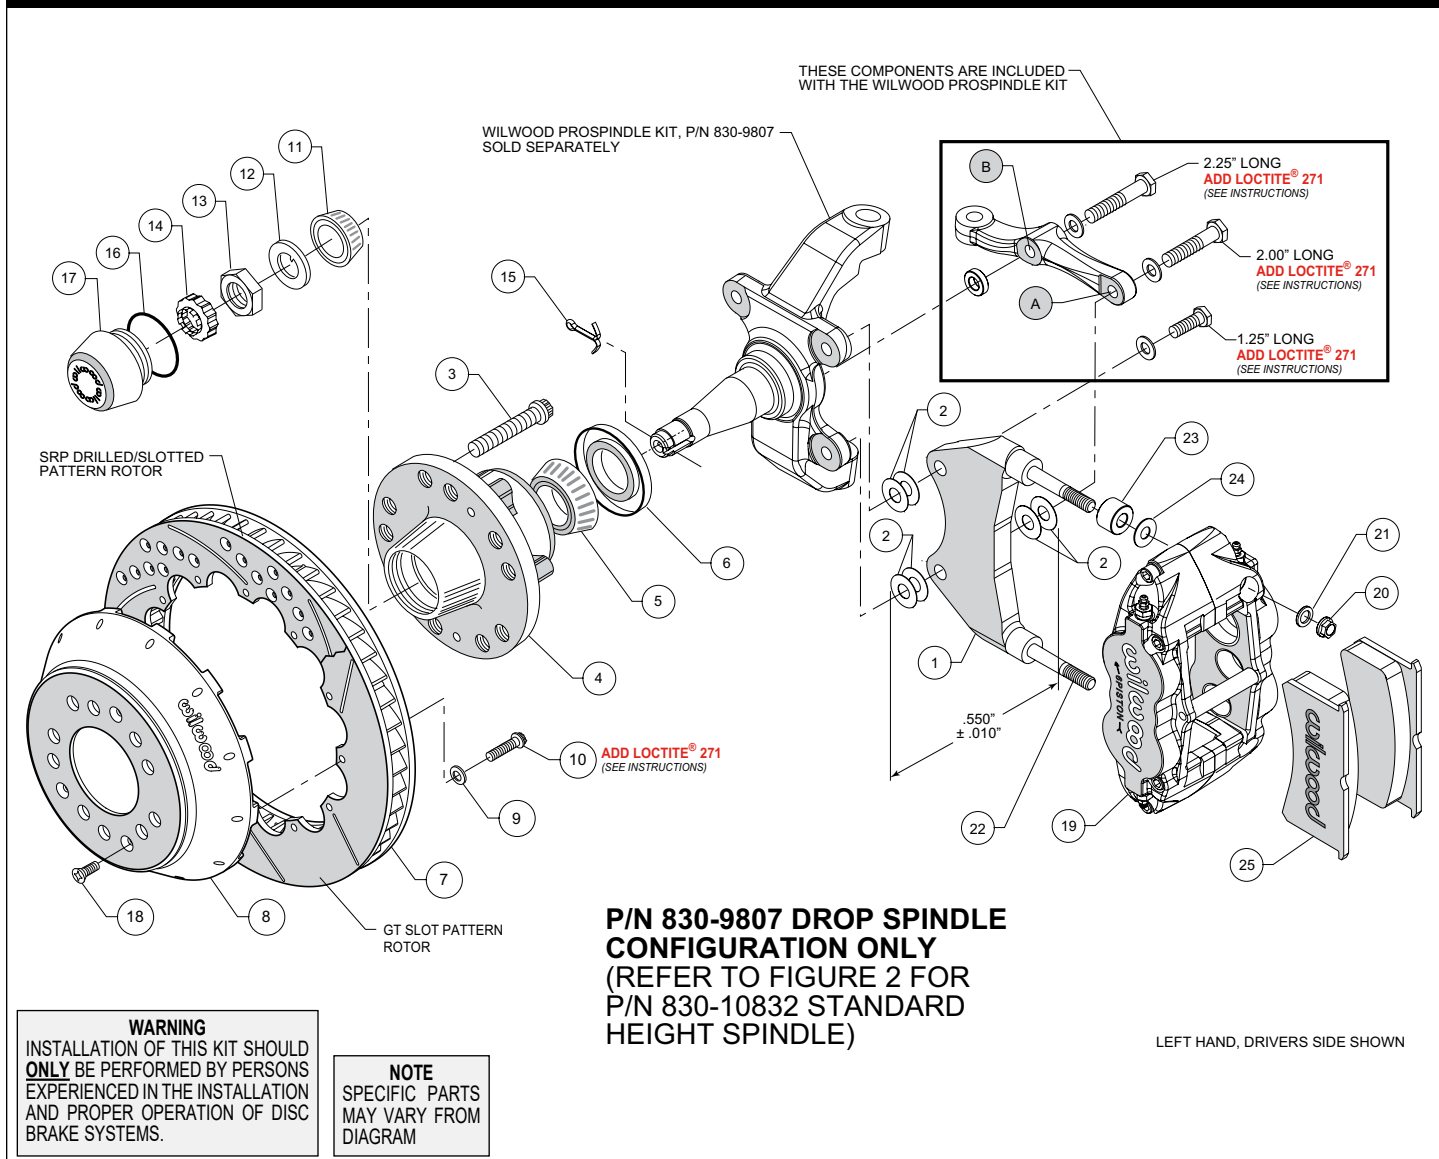
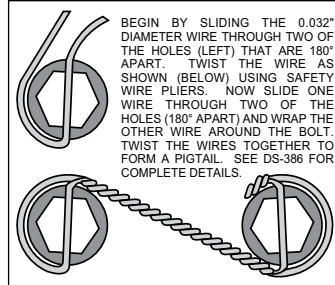

Figure 1. Installation Configuration For Drop Spindle, P/N 830-9807
Figure 4. Safety Wire Diagram
NOTE: Numbers in parenthesis refer to the parts list and Figure 1 on the preceding pages.
•NOTE: Each Wilwood ProSpindle kit includes bolts, washers, and a spacer to mount the steering arm and caliper bracket. The various bolts are identified by length in the following instructions and in Figures 1 and 2.
- Orient the bracket as shown in Figure 1 and Photo 1. Install at top spindle hole using 1.25" long bolt and .06" thick washer (from ProSpindle kit), and two .016" thick shims (2) between the bracket and spindle, Figure 1.
- Orient the steering arm, and identify the hole marked 'A', as shown in Figure 1. Install at bottom spindle hole using 2.00" long bolt and .06" thick washer (from ProSpindle kit), two .016" thick shims (2) between the bracket and steering arm, and another two .016" thick shims (2) between the bracket and spindle, Figure 1. The bracket is located between the steering arm and spindle. **NOTE:** The bracket and shim washers must add up to a total thickness of .550" ± .010", Figure 1.
- Finish attaching the steering arm through the hole marked 'B', as shown in Figure 1. Install using 2.25" long bolt, .06" thick washer, and .25" thick spacer (all from ProSpindle kit), Figure 1.
- Orient the rotor (7) and the hat (8) as shown in Figures 1 or 2, and Photo 6. Attach rotor to hat using bolts (10) and washers (9). Apply red *Loctite*® 271 to the bolt threads and torque to 155 in-lb using a criss-cross pattern. For an added measure of security, the bolts may be safety wired using standard 0.032 inch diameter stainless steel safety wire as shown in Figure 4. Refer to Wilwood's data sheet DS-386 (available at www.wilwood.com/Pdf/DataSheets/ds386.pdf) for complete safety wire installation instructions.
- **NOTE:** This kit contains distinct right and left hand calipers that must be mounted in a specific direction, as described below. Initially place one .035" thick shim (24), and spacer (23) on each stud (22) as shown in Figure 1 or 2, and Photo 7. Mount the caliper (19) onto the bracket (1) using lock nuts (20) and washers (21), Figure 1 or 2. Ensure that the caliper is mounted so that the largest pistons are at the rotor exit end of the caliper, in relation to the direction of rotor rotation. Temporarily tighten the lock nuts and view the rotor through the top opening of the caliper. The rotor should be centered in the caliper, Photo 8. If not, proceed as follows:
- Adjust by adding or subtracting shims (2) between the bracket and the spindle. Always use the same amount of shims on each of the two bolts between bracket and spindle.
- For the lower bracket mount bolt, if a shim was added between the bracket and spindle, then a shim must be removed between the steering arm and bracket, such that the total thickness of bracket and shims remain equal to $.550 \pm .010$ ", Figure 1.